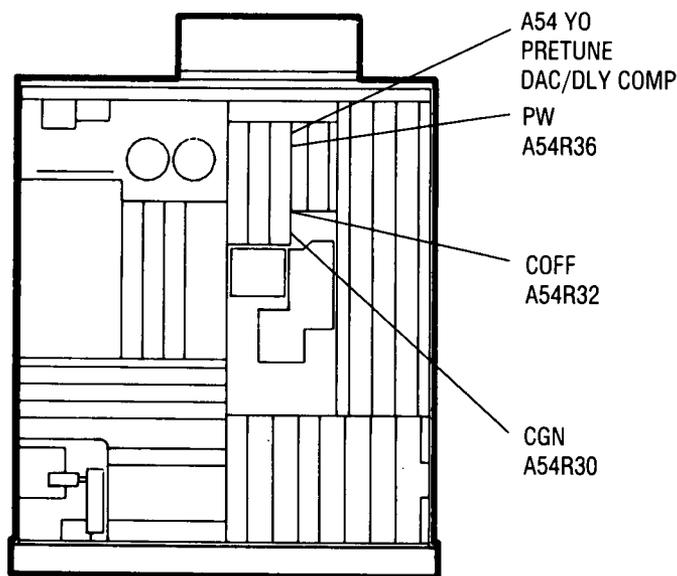

Figure 5-30. YO Delay Compensation Adjustments Location
3. Adjust A54R36 (PW, Figure 5-30) for a 12.5 msec pulse on the oscilloscope.